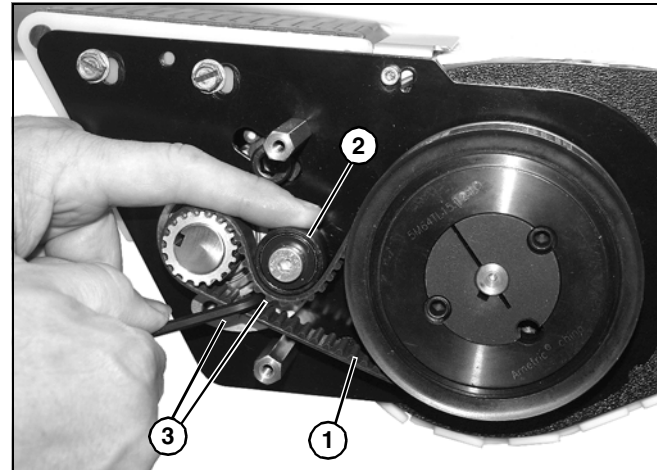

Figure 111
- On idler end, route and install belt (**Figure 111, item 1**) as shown. Press down on tensioner (**Figure 111, item 2**) and tighten two hex head screws (**Figure 111, item 3**).